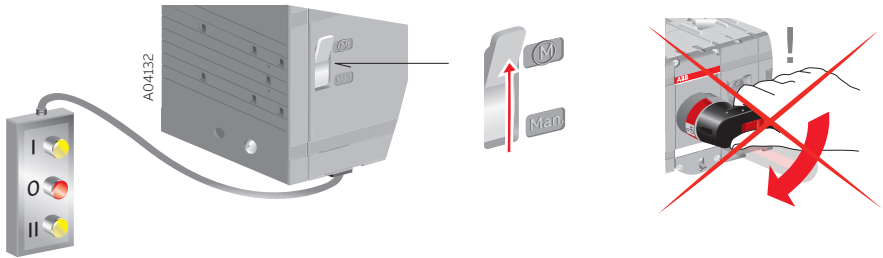

Figure 8.2 Motor/Manual selection switch in the Motor (M) position
2. Turn the Motor/Manual selection switch to the Motor (M) position, see Figure 8.2.